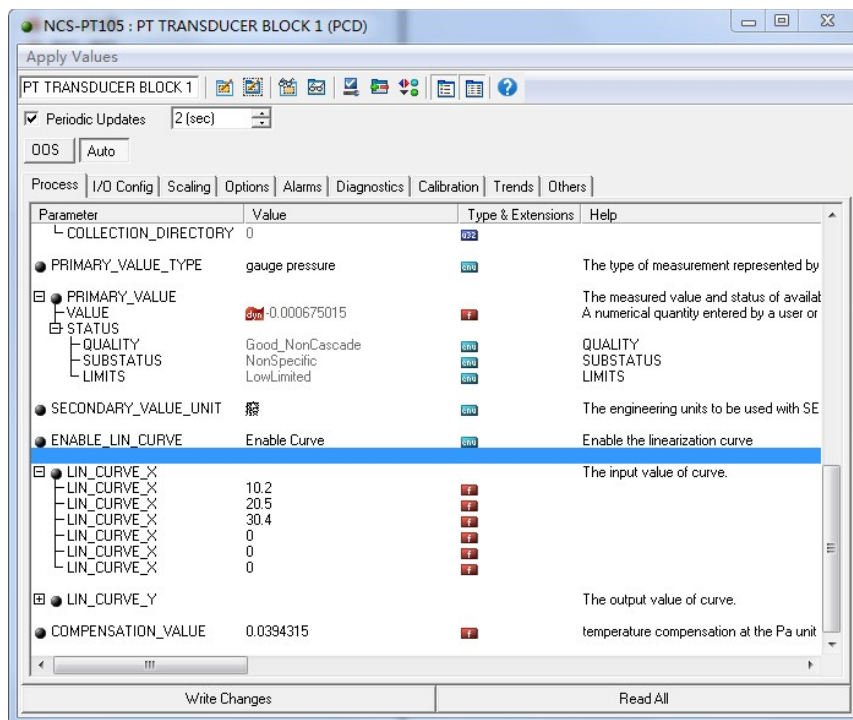

Figure 6.5 Configuration of the parameter LIN_CURVE_X
- 2) Enter the standard pressure through the resor and open the corresponding transformation block on the configuration software, read the value of parameter PRIMARY_VALUE and write the value to the LIN_CURVE_X array. For example, write the 10.2,20.5,30.4 read in the LIN_CURVE_X array, as shown in Figure 6.5. Finish this calibration work.